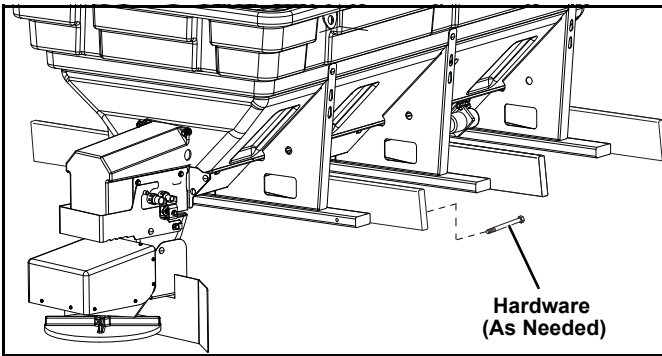

Figure 1-13
3. Once the spreader is setting in its proper spot, screw boards into each of the wood runners on the spreader. (See Figure 1-13) The ends of the board should just touch the side of the bed. The length typically ranges from 24 to 36 inches, depending on the width of the truck bed. The boards can be 2x4, 2x6, or any standard piece of lumber. These boards are supplied by the end user.